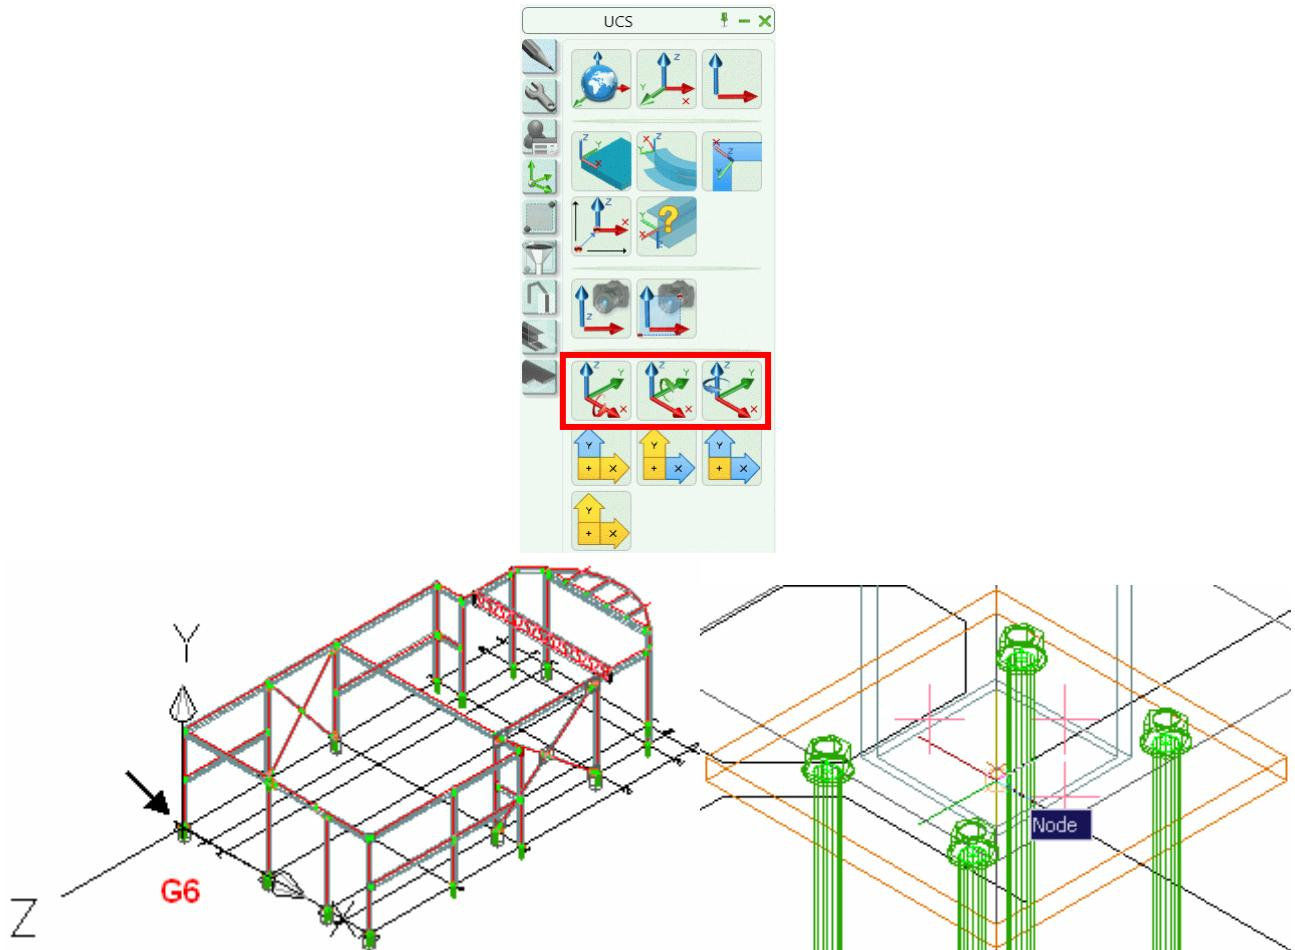

Figure 258: Placing the UCS
Place the UCS in a suitable position as in the Figure 258. The XY plane is in the elevation plane.
3. Next, rotate the UCS so that it is placed as in the Figure 258.